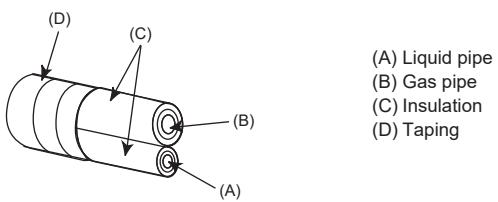

Fig. 4-1
(A) (Fig. 4-1)
(B) (Fig. 4-1)
4.2. Connecting pipes (Fig. 4-1, Fig. 4-2)
When commercially available copper pipes are used, insulate both the liquid and gas pipes separately with commercially available insulation materials (heat-resistant to 100°C, 212°F or more, thickness of 12 mm, 1/2 inch or more). (Fig. 4-1)